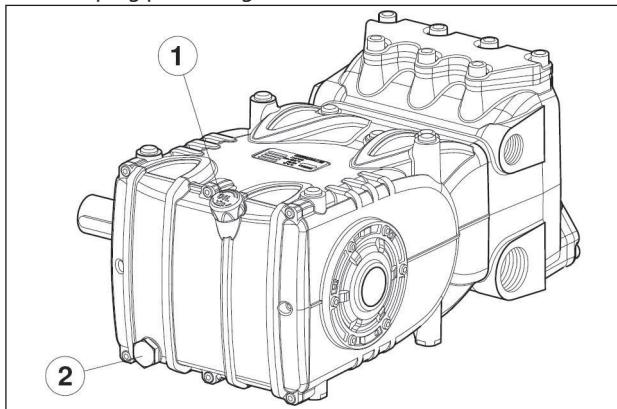

Fig. 1
To remove oil, you must remove: the oil dipstick, pos. ①, and then the plug pos. ②, Fig. 1.